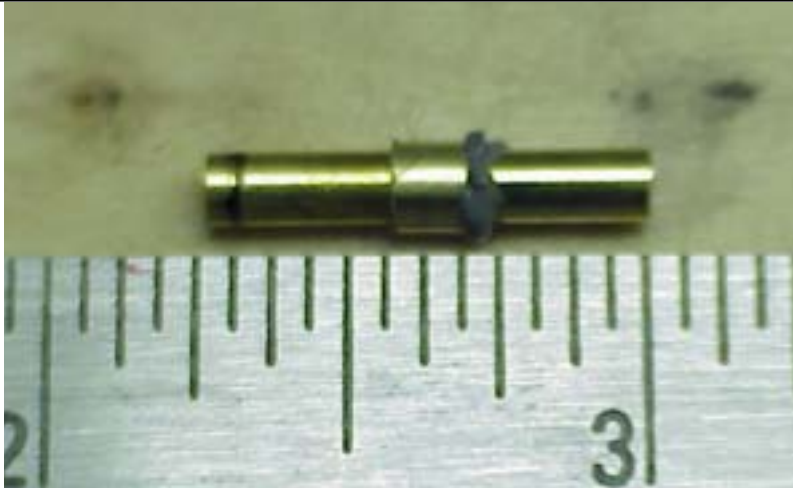

Figure 3-7: Rotor Bearing Step 4
- 4) Using a ruler, slide the ring into the solder paste such that 5/16 of the bearing end is exposed and clear of solder paste as shown in Figure 3-7